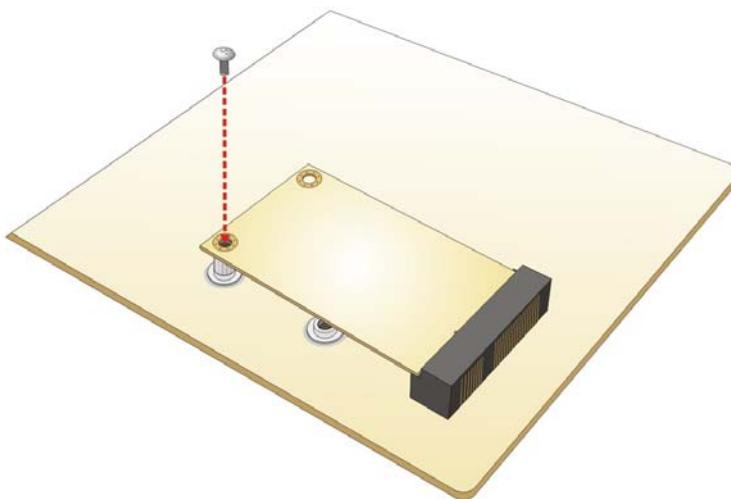

Figure 3-14: Securing the Full-size PCIe Mini Card
Step 6: Secure the full-size PCIe Mini card. Secure the full-size PCIe Mini card with the retention screw previously removed (**Figure 3-14**).